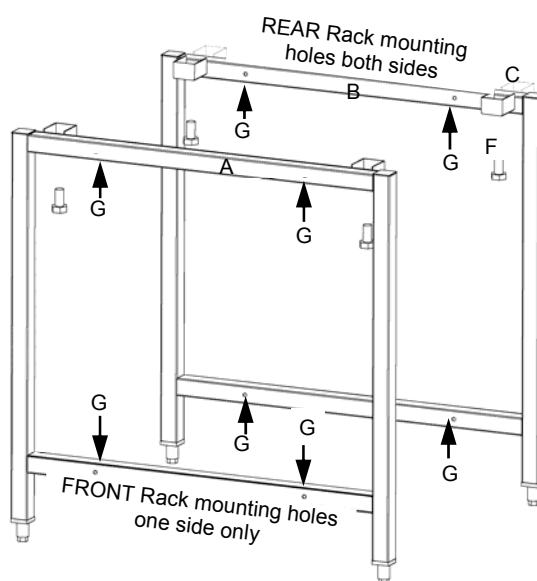

Figure B.2
- Fit the other stand frame (B) with screws and washers (E).
NOTE: Take care which way around the frame is. For 26" oven have the oven supports facing the racks, for 30" oven have the supports (C) facing away from racks (refer figure B.2).